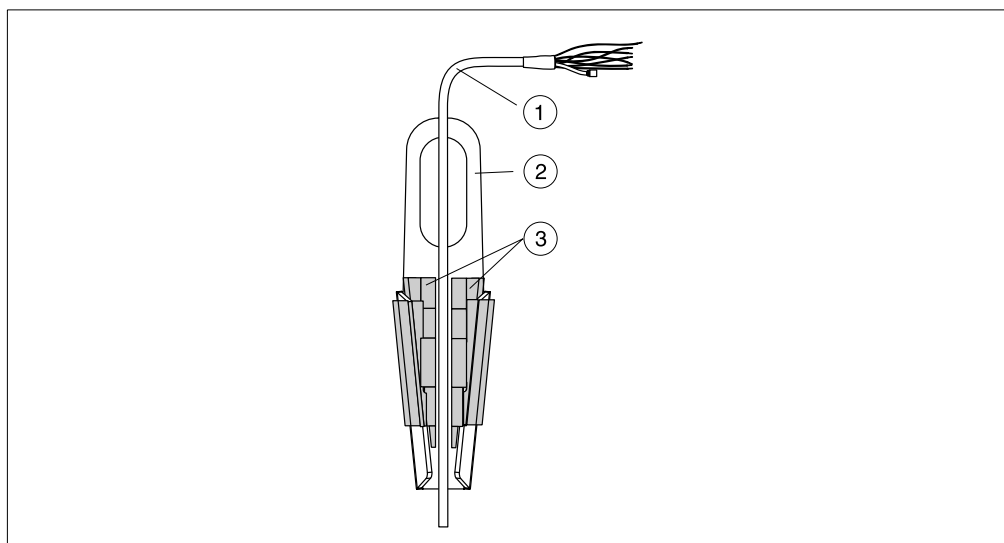

figure 4: Installing level probe LGC with a mounting clamp
1. Mount the mounting clamp (pos. 2). When selecting the type of fixing, note the weight of the extension cable (pos. 2) and the device (refer to chapter 9.1.).
2. Raise clamping jaws (pos. 3). Place extension cable (pos. 1) acc. to fig. 4 between clamping jaws.
3. Hold extension cable (pos. 1) tight and push clamping jaws (pos. 3) back down. Fix clamping jaws by tapping lightly.